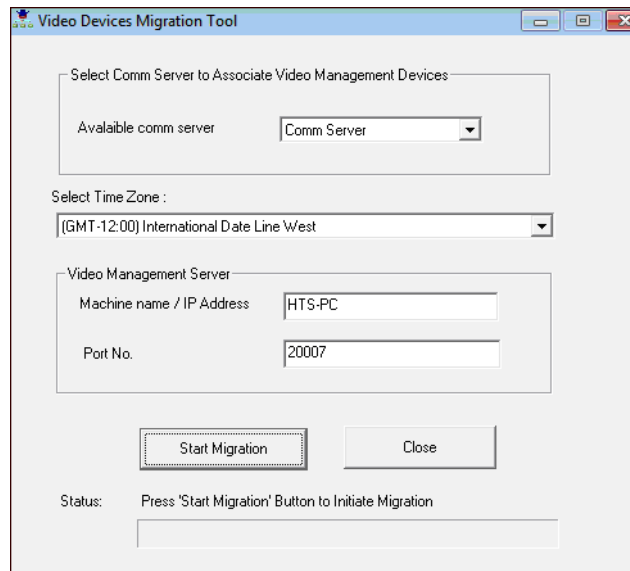

Figure 2-25 Video Devices Migration Tool
4. Type your user **Name** and **Password** (WIN-PAK user credentials) to open the tool. Figure 2-25 appears listing all the communication servers available in WIN-PAK.